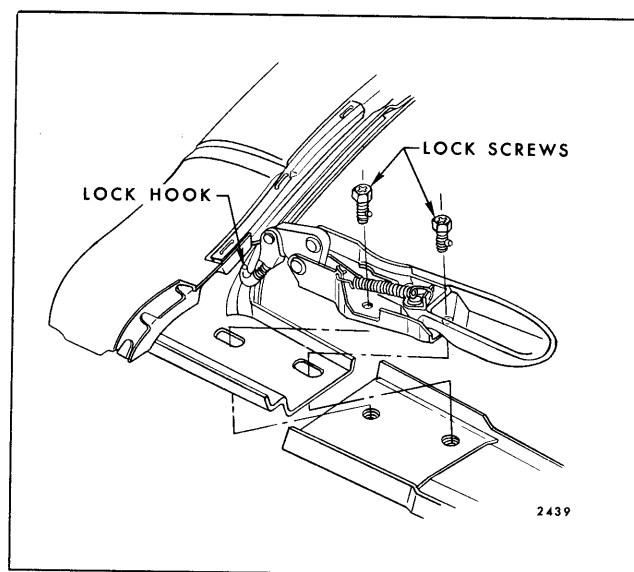

Fig. 13-79—Lock Attachment
2. Loosen side roof rail lock attaching screws and adjust front roof rail fore or aft as required. Repeat on opposite side if necessary (Fig. 13-79).
2. With top in a half-open position, remove lock attaching screws; then, remove lock assembly from front roof rail (Fig. 13-79).